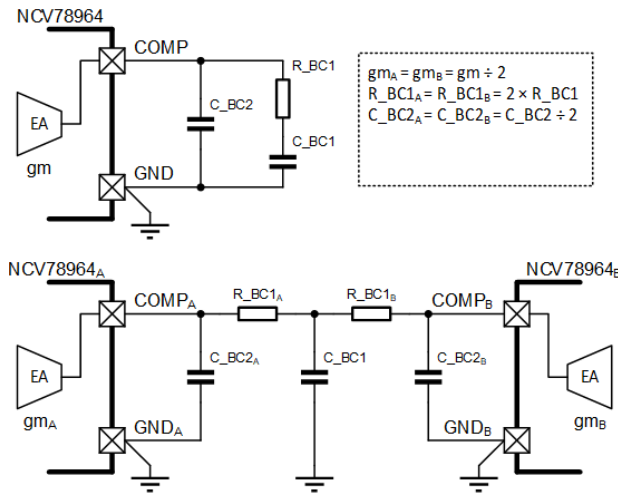

Figure 24. Compensation Network Connection for Single (Top) and Dual (Bottom) Device Operation
1. The compensation network is split between the two boosters' COMP pins according to Figure 24, to equalize the power distribution of each booster. For the best noise rejection, the compensation network area has to be surrounded by the GND plane. Please refer to the PCB Layout Recommendations section for more general advices.